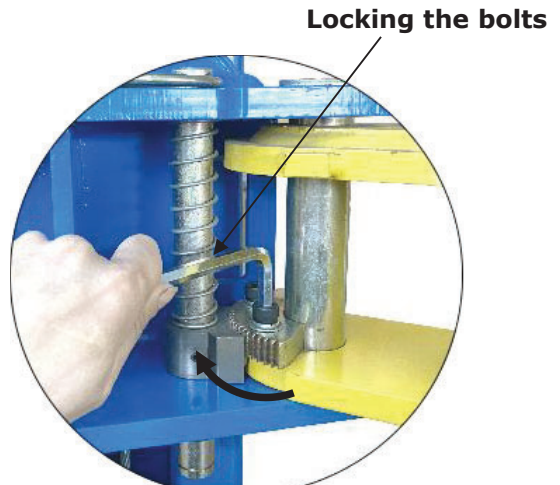

Fig. 40
4. Adjust moon gear and arm lock to make it to be meshed, then tighten the socket bolts of arm lock (See Fig. 40).